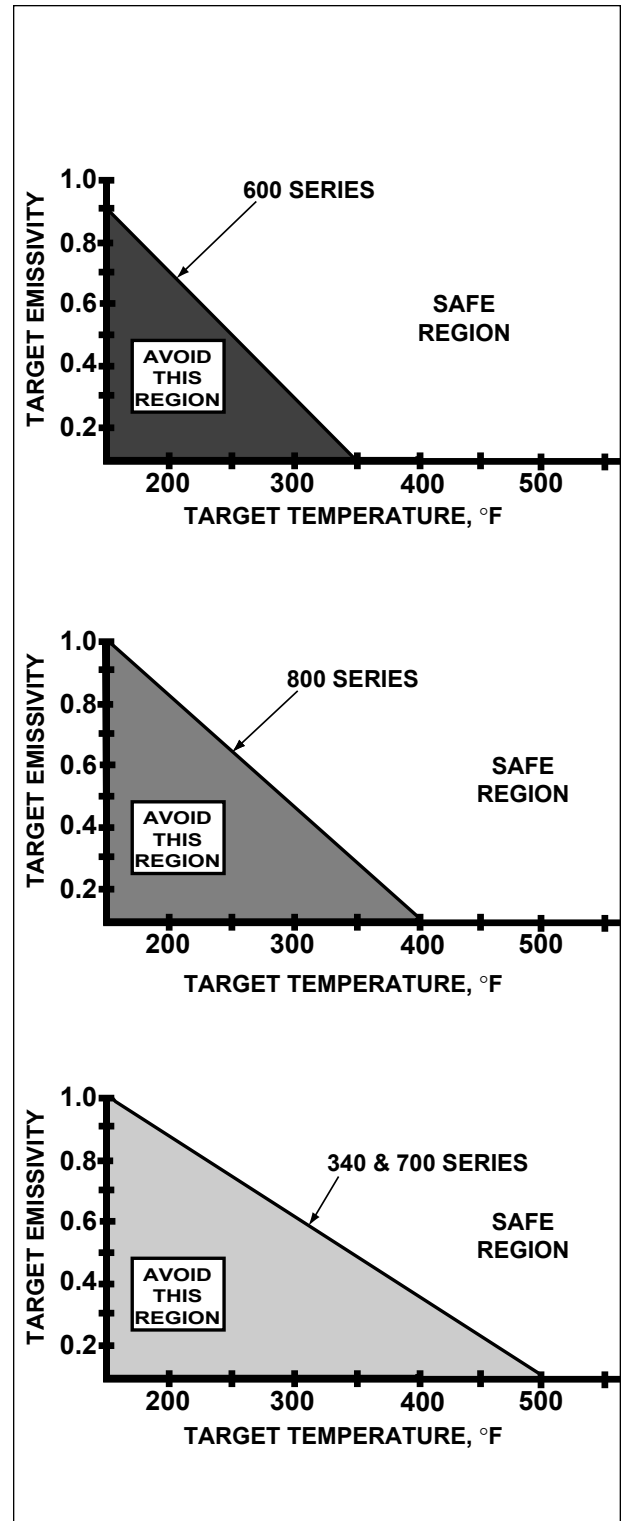

FIG. 7.2 – PRACTICAL LIMITS ON EMISSIVITY
For example in Fig. 7.2 the diagram illustrates target emissivity-vs-target temperature combinations to be avoided for the MODLINE 3 Series Sensors.
- In Fig. 7.2 the Series 600 Sensor; avoid measurements below 300 °F Target Temperature with an Emissivity of 0.3.
- In Fig. 7.2 the Series 800 Sensor; avoid measurements below 300 °F Target Temperature with an Emissivity of 0.45.
- In Fig. 7.2 the Series 340 and 700 Sensors; avoid measurements below 300 °F Target Temperature with an Emissivity of 0.6.